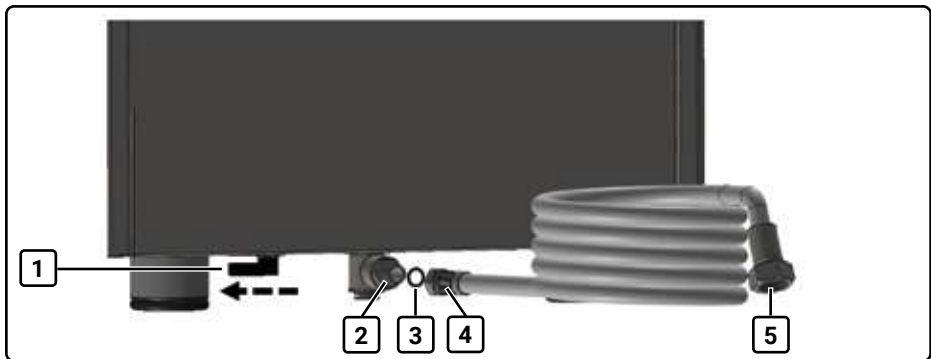

Fig. 5 Rear view with rotary valve and water connection nozzle
2. Screw the water connection hose (4, Fig. 5) included in the scope of delivery to the water connection nozzle (2, Fig. 5) on the underside of the machine. Use the gasket (3, Fig. 5) for this.
4. Connect the water connection hose (5, Fig. 5) to the water supply.
5. Move the rotary valve (1, Fig. 5) into the mains water position. The valve points towards the outside of the machine.